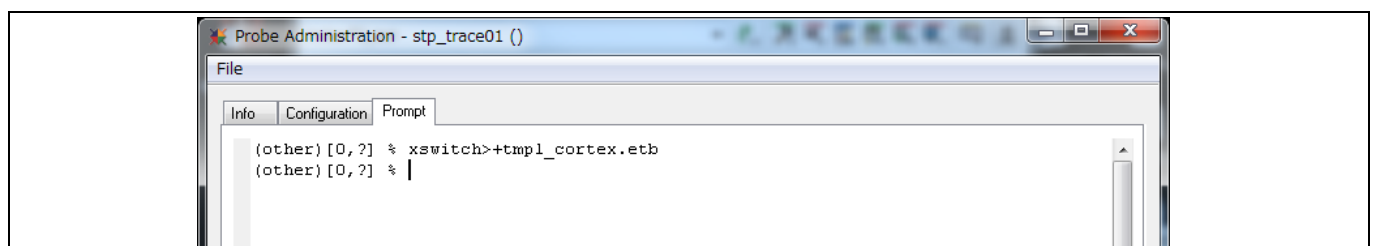

Figure 12 Enable ETM trace function
- Choose **File > Prompt**, and input the following command line, as shown in Figure 12: